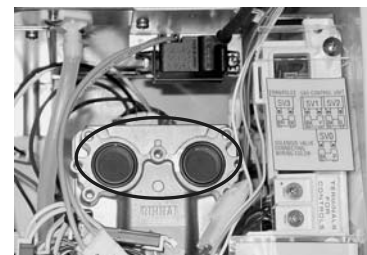

Figure 11
34. Make sure that the two black packings (Figure 11) are intact on the gas control assembly. Make sure that the ribbed side faces toward the manifold and that the flat side faces toward the gas valve. Attach the gas manifold with 3 machine screws at the gas control assembly. Replace the lower and upper packings (included in kit) for the manifold plate removing any residue.
25. Remove 4 screws attaching the bracket on top of the heat exchanger. Pull off the bracket. (Figure 11)
27. Install the bracket over the replacement heat exchanger. Push evenly on both sides of the bracket. Attach with four screws. (Figure 11)